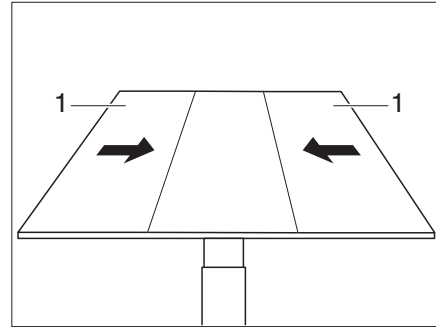

Fig. 98 Sliding the side parts against the middle part
- Push the outer parts (Fig. 98,1) of the table against the middle part.